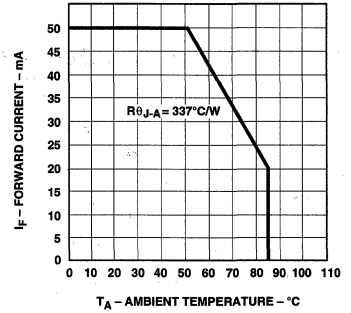

Figure 5. Maximum dc Current vs. Ambient Temperature. Derating Based on T_J Max. = 110°C.
1. Derate linearly as shown in Figure 5.